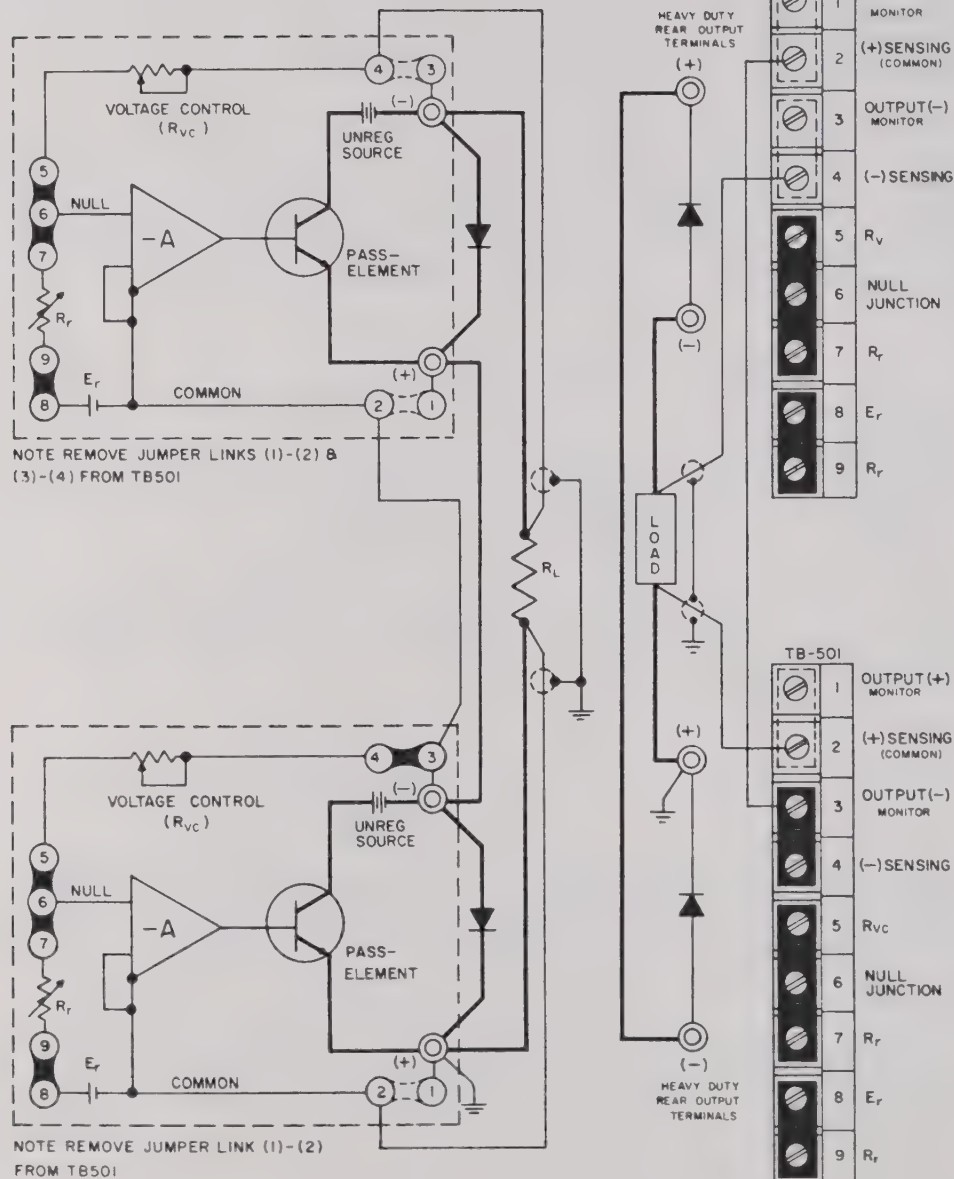
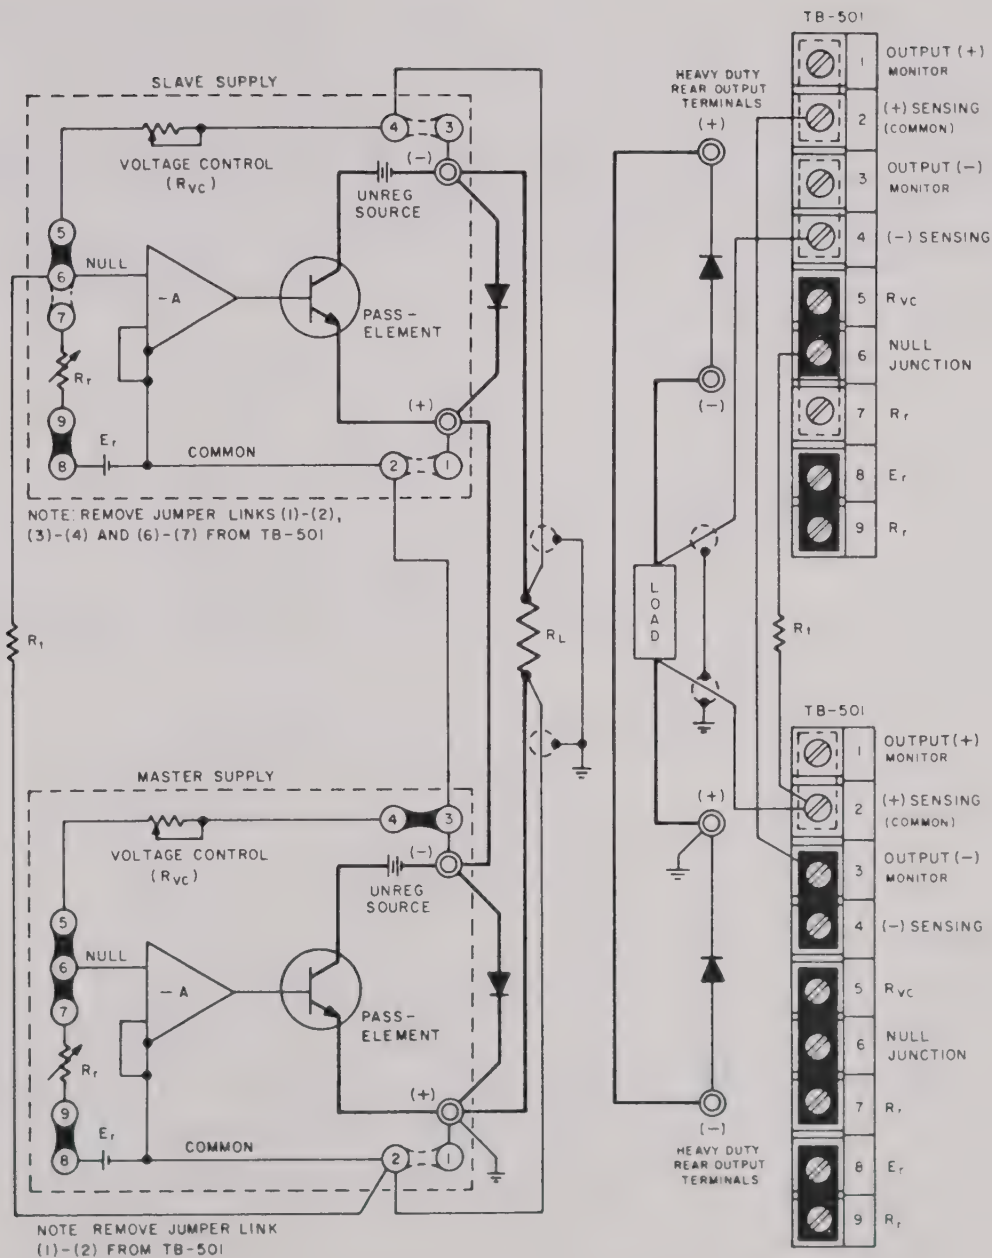

FIG. 3-10 AUTOMATIC SERIES CONNECTION OF KEPKO POWER SUPPLIES
FIG. 3-11 MASTER-SLAVE SERIES CONNECTION OF KEPKO POWER SUPPLIES
3-35 GENERAL. Kepco Power Supplies can be series-connected for increased voltage output, provided the specified limits on voltage to chassis are not exceeded. When series-connected, the supplies should be protected by means of a semiconductor diode across the output terminals of each power supply, as shown in FIG. 3-10. The peak inverse rating of these diodes must be at least as large as the output voltage of the supply to which they are connected. The continuous current rating of the diodes should be at least as great as the largest short-circuit current of the interconnected supplies.
3-36 Two basic series connection methods are generally used, the "Automatic Series Connection", as illustrated in FIG. 3-10, and the "Master-Slave" connection, shown in FIG. 3-11. The basic difference between these two alternate methods lies in the manner of the output control. While in the "Automatic" connection the outputs of both supplies may be controlled individually, in the "Master-Slave" connection, control is exercised from the "Master" supply alone, while the "Slave" supply follows the master command in a ratio which may be pre-determined by the user. The latter method of series operation is therefore frequently termed "Automatic Tracking".
- a) Connect load as shown in FIG. 3-10. Keep voltage drop in load wires as low as practical by using heavy gauge wire.
3-38 The "Master-Slave" series connection method is illustrated in FIG. 3-11. As seen from the figure, the reference voltage (E_r) of the "Slave" supply is disconnected and its input or null junction is connected to the output of the "Master" supply via the tracking resistor (R_t). The "Slave" supply output is thus completely dependent on the "Master" output voltage:
- a) Connect load as shown in FIG. 3-11. Keep voltage drop in the load wires as low as possible by using heavy gauge wire.
- c) Remove jumper links as shown (FIG. 3-11) and connect error sensing leads if remote sensing is desired. Sensing leads should be twisted and shielded.
- d) Select value of the tracking resistor (R_t) and connect with shielded wire as shown (FIG. 3-11).